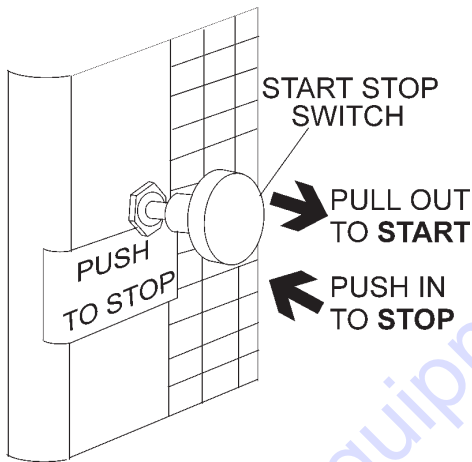

Figure 9. Main ON/OFF Switch
- Located on the engine cover is the main **start/stop** switch (Figure 9). Pull this switch outward to start the engine.
- Push the main **start/stop** switch (Figure 9) inward to stop the engine.